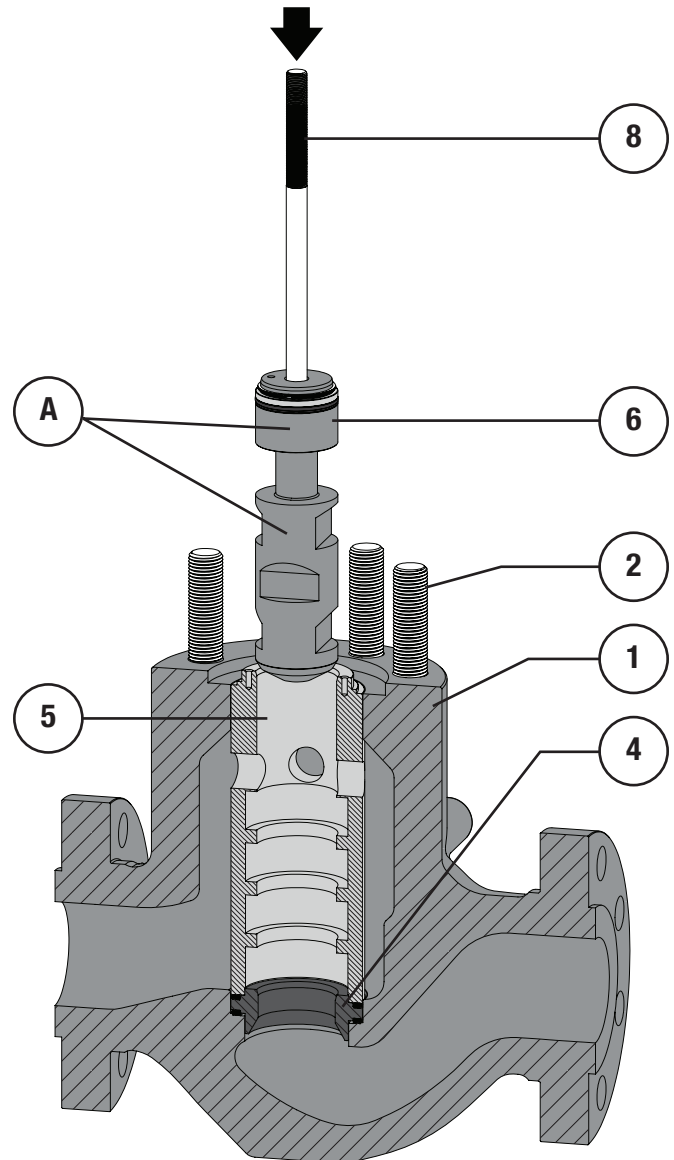

Figure 20 Trim Parts Installation (Step 5)
- 5 Apply Lubriplate® No. 105 (Key C) to the sides of the valve plug (Key 6). Install the valve plug assembly into the cage (Key 5), align any alignment marks made during disassembly or lapping. Refer to Figure 20.